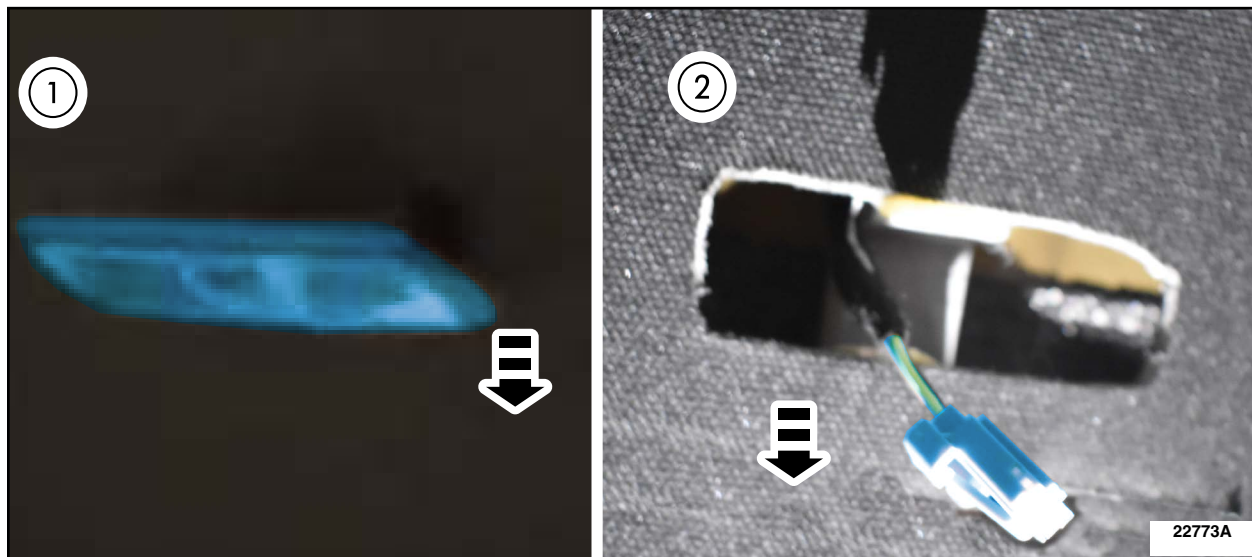

FIGURE 1
1. Remove the original rear cargo lamp using a trim tool. See Figure 1.
2. Once the lamp has been removed the connector end and applicable wire should be hanging from the hole in the headliner where the lamp has been removed from. See Figure 1.